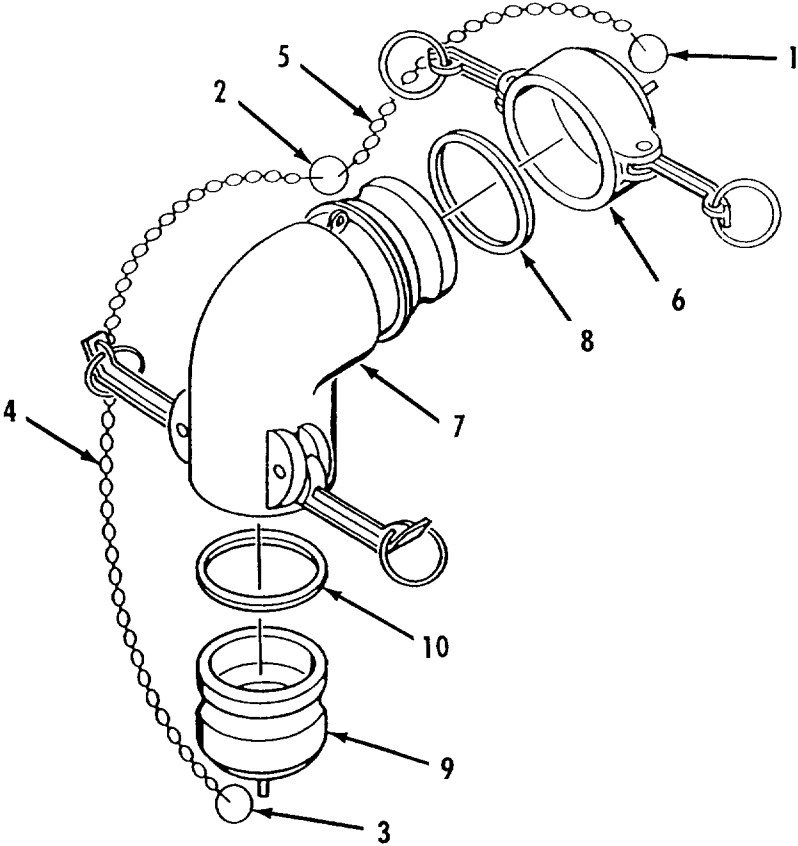

Figure 4-10. Elbow Repair.
a. Disassembly. Refer to figure 4-10.
(1) Remove three split rings (1, 2, and 3) and chains (4 and 5).
(2) Remove dust cap (6) from male end of elbow (7).
(3) Remove gasket (8) from dust cap (6).
(4) Remove dust plug (9) from female end of elbow (7).
(5) Remove gasket (10) from female end of elbow (7).
- d. Assembly. Refer to figure 4-10.